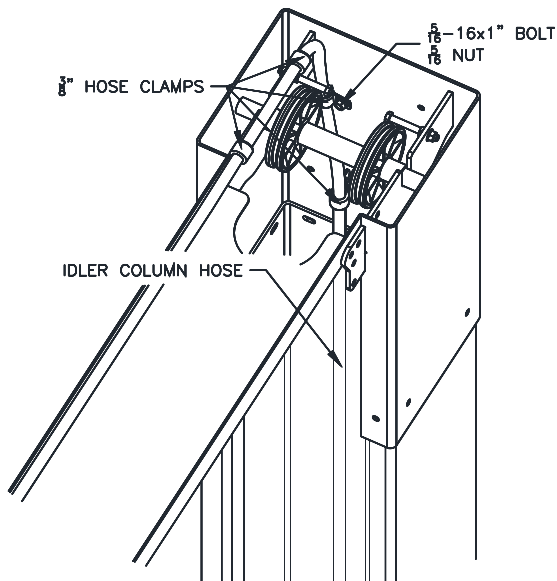
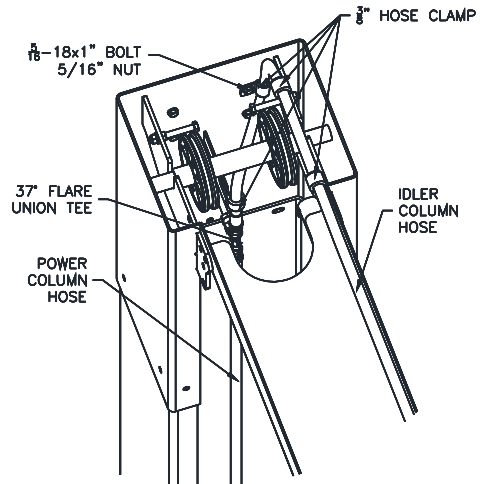

Fig 8a – Hose Routing, Idler Side Column Ext.
Fig 8b – Hose Routing, Power Side Column Ext.
24) Uncoil Idler side hose and route through the Idler Side column extension as shown in Fig 8a. taking care to avoid the synchronizing cables and hydraulic cylinder path. Remove slack and tighten all 3 clamps. Route hose across overhead avoiding the synchronizing cables and down through the Power Side column extension as seen in Fig 8b. Do Not Tighten Clamps at this time.
25) Loosely attach power column hose and idler column hose using the tee fitting (*in hardware box*) Attach Power Unit Hose to power side column extension as seen in Fig 9a. Connect Power unit hose to tee from Fig 8b and remove slack from power column hose. Tighten loose fittings and clamps from previous step. Serpentine any extra hose length in overhead.